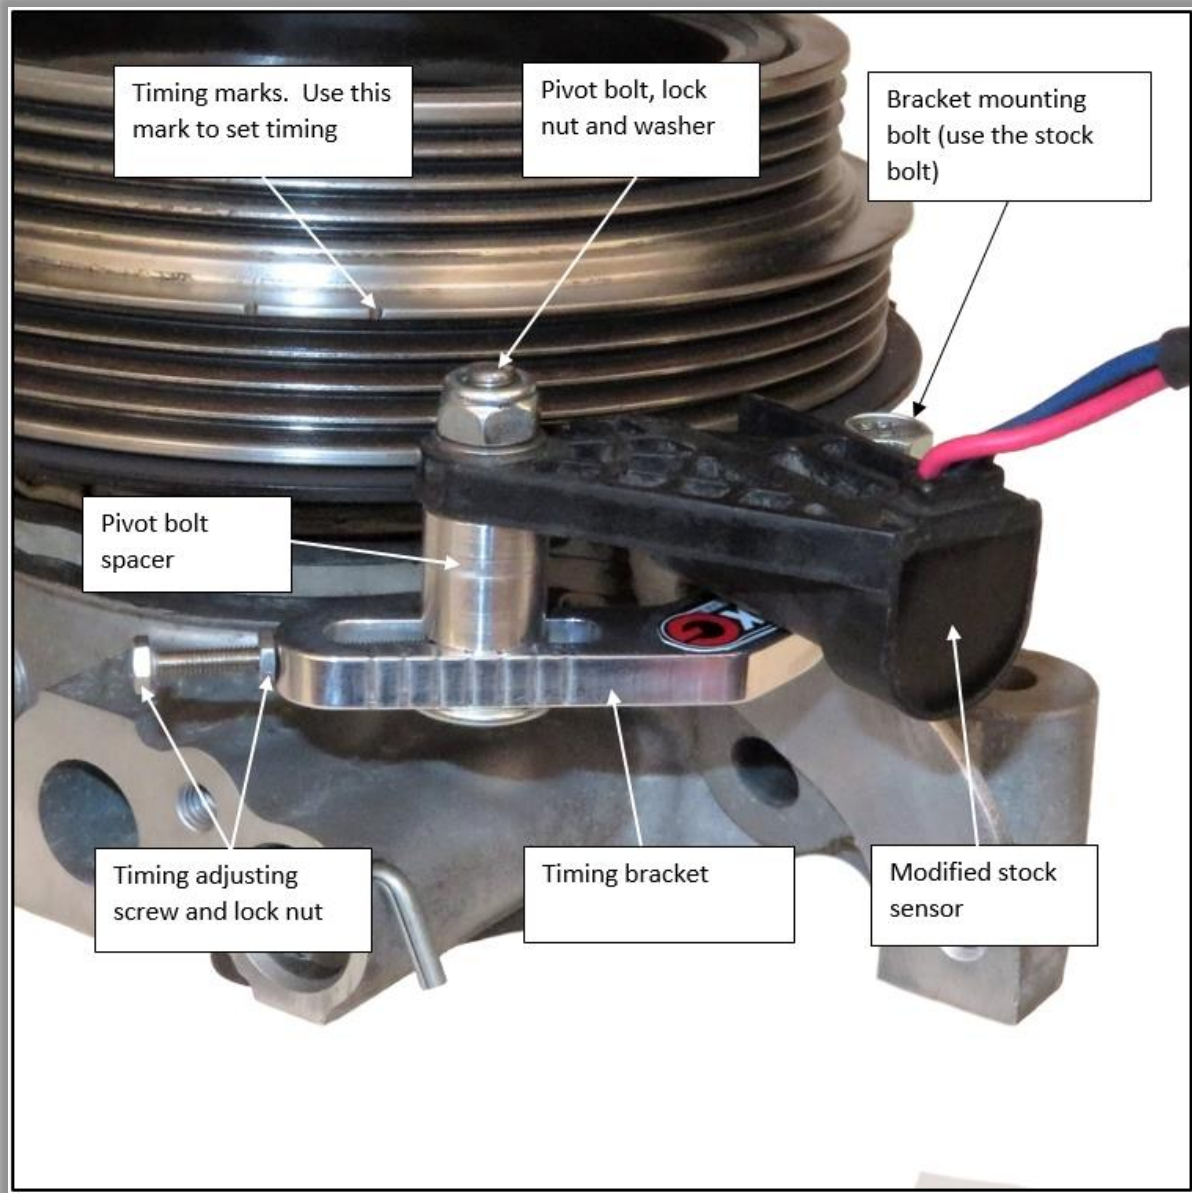

Figure 3
1. Place the components on the bracket as shown in figure 3